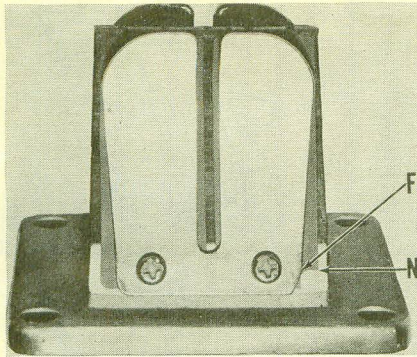

Fig. Y4-4—Notches in reed valve petal (F) and reed petal stop (N) must be adjacent on model RD200A.
Model RD200A is equipped with reed valve induction. Reed valve petals must be installed so that notch in petal (F—Fig. Y4-4) is next to notch (N) in reed petal stop.